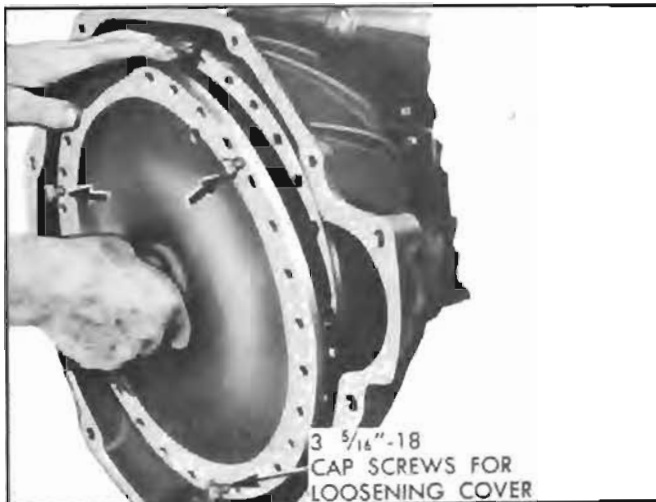

Figure 4-74—Removal of Converter Pump Cover
3. Screw  $\frac{5}{16}$ "-18 cap screws into the three tapped holes in pump cover to loosen and remove cover. See figure 4-74. Remove cover gasket.